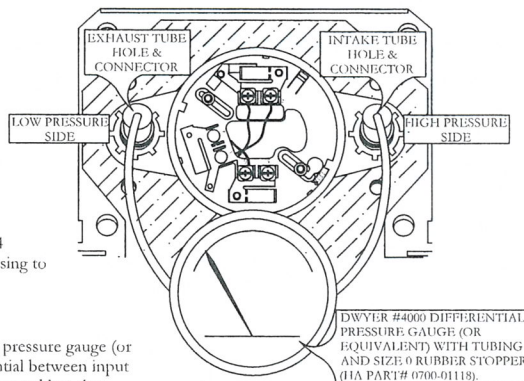

FIG. 3 AIR SAMPLING VERIFICATION
F. VERIFY AIR SAMPLING (See Figure 3)
To verify proper sampling of air, use a Dwyer Model 4000 differential pressure gauge (or equivalent). See Figure 3 for gauge connections. The pressure differential between input sampling tube and exhaust tube should be greater than 2.491Pa of water and less than 298.9Pa of water.